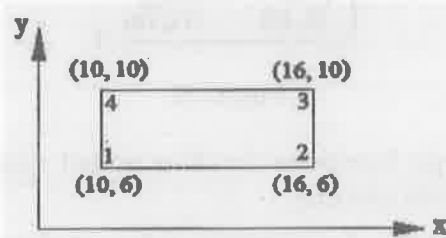

Figure 3
13. (a) For a four noded rectangular element shown in figure 3, determine the temperature at the point (14, 8). The nodal values of temperature are $T_1 = 46^\circ\text{C}$, $T_2 = 58^\circ\text{C}$, $T_3 = 61^\circ\text{C}$ and $T_4 = 49^\circ\text{C}$.